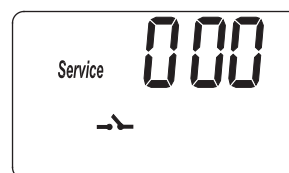
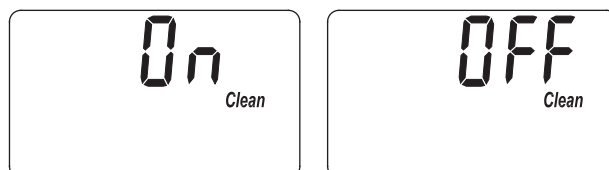
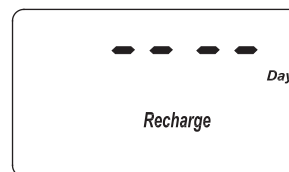
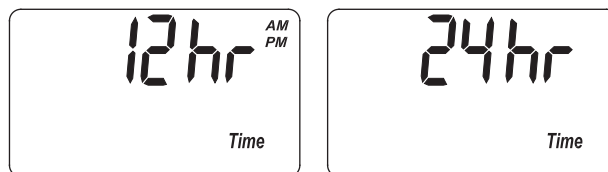

FIG. 26
FIG. 27
FIG. 29
FIG. 30
1. Press and hold the PROGRAM button until the screen in Figure 26 is displayed. Once in this display, press the PROGRAM button twice and one of the two displays in Figure 27 is shown.
1. Press and hold the PROGRAM button until the screen in Figure 26 is displayed. Once in this display, press the PROGRAM button three times and the display in Figure 28 is shown.
1. Press and hold the PROGRAM button until the screen in Figure 26 is displayed. Once in this display, press the PROGRAM button four times and the display in Figure 29 is shown.
1. Press and hold the PROGRAM button until the screen in Figure 26 is displayed. Once in this display, press the PROGRAM button five times and one of the two displays in Figure 30 is shown.